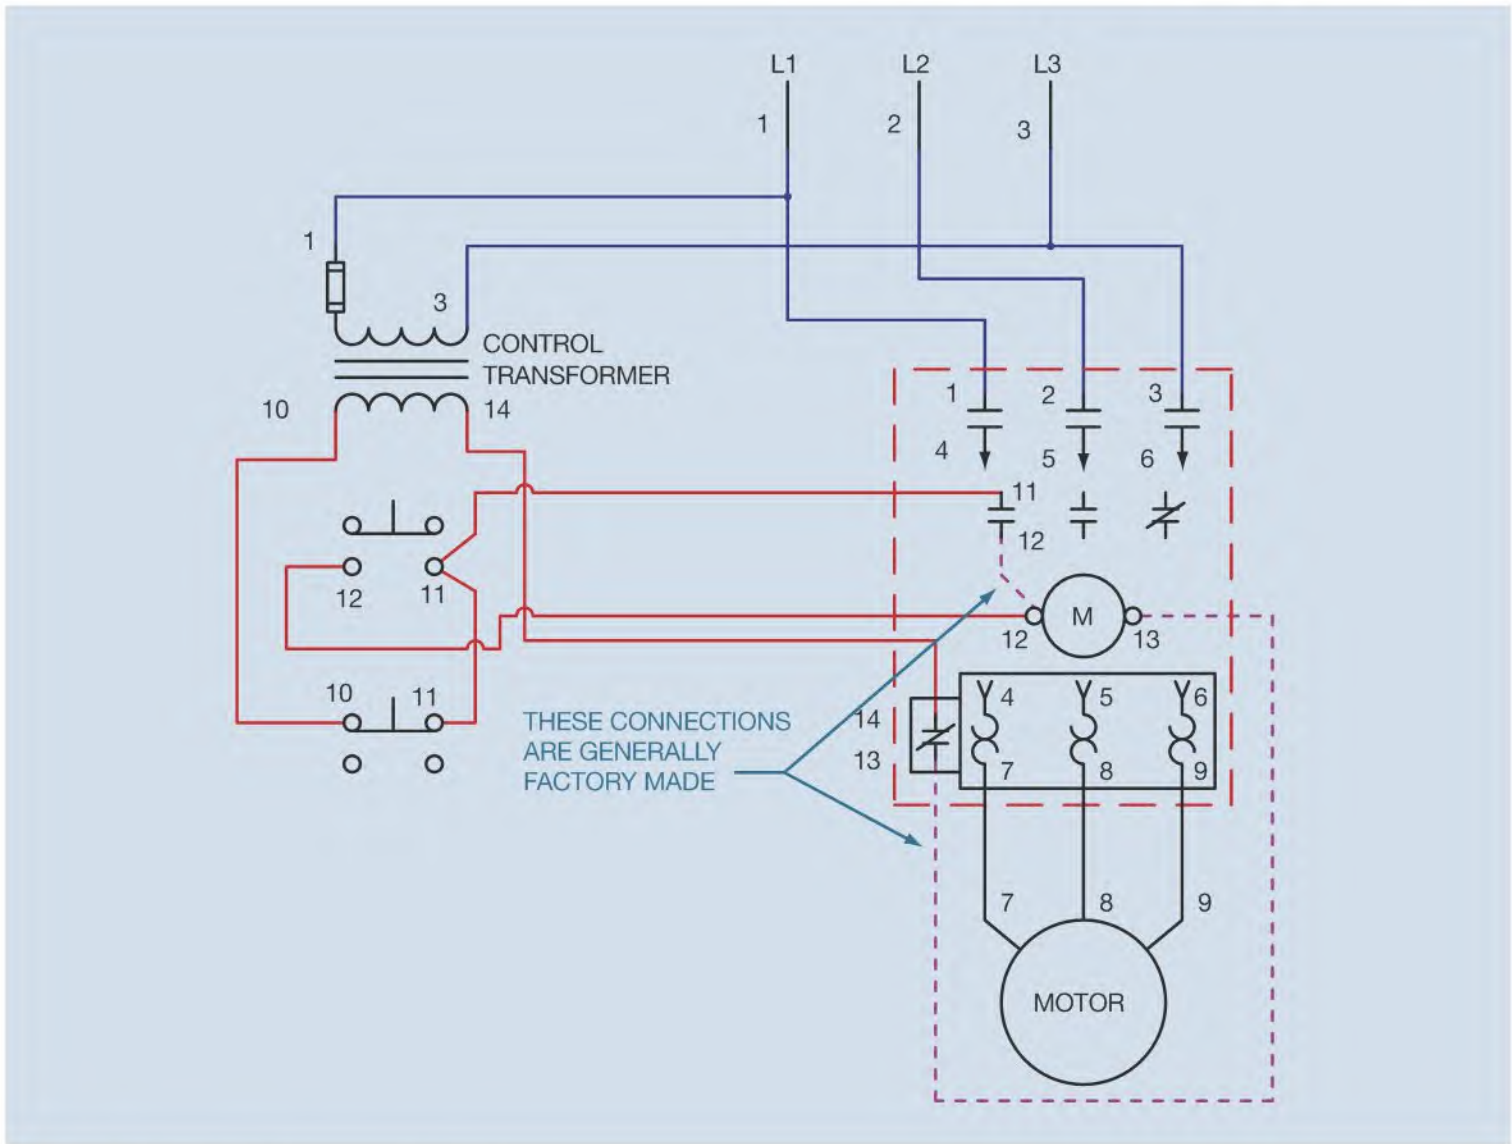

Figure 7–20 Completing the wiring diagram.
1. Refer to the circuit shown in Figure 7–10. If wire number 11 were disconnected at the normally open auxiliary M contact, how would the circuit operate?